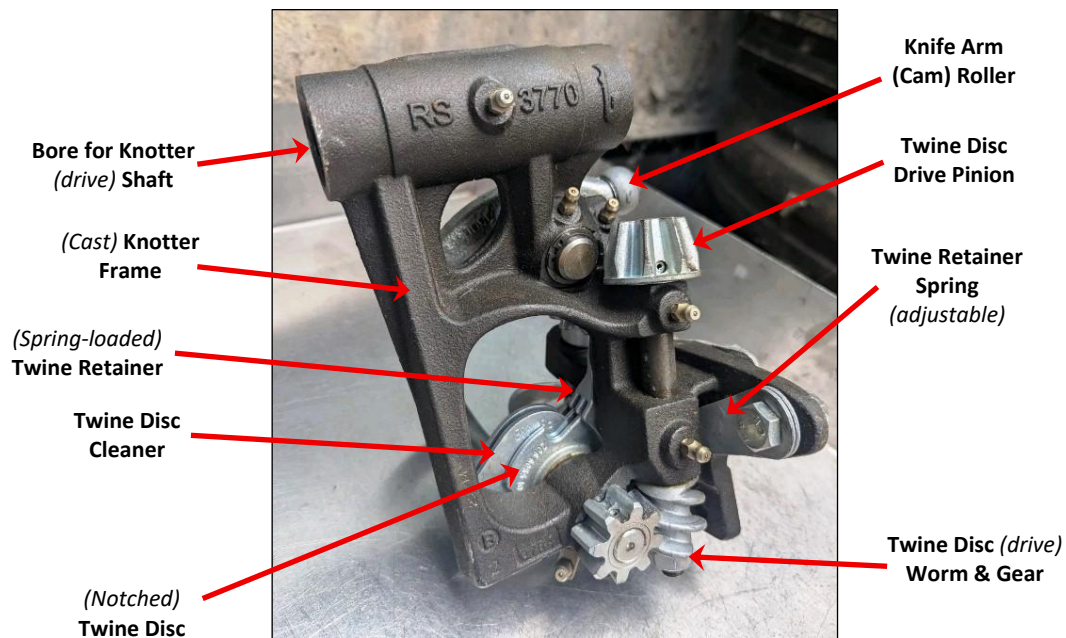
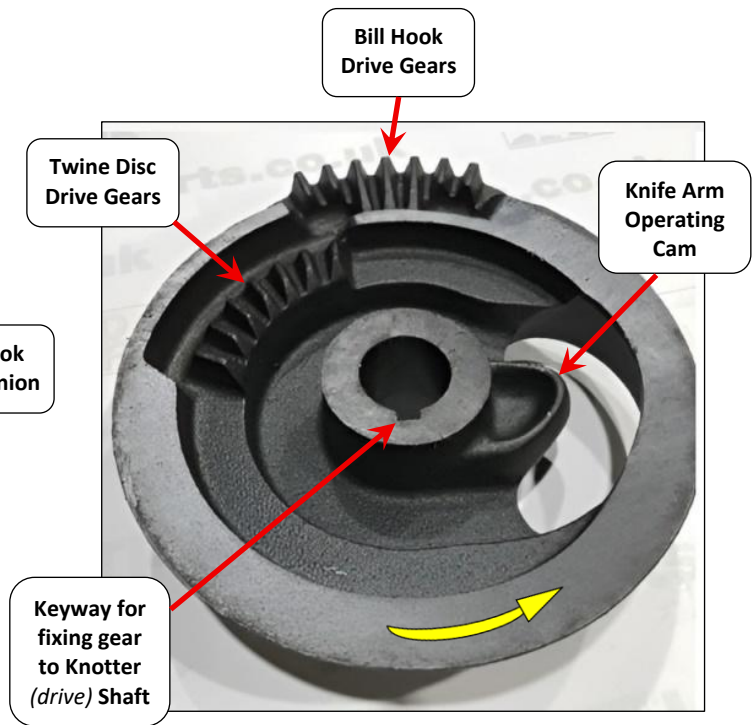

Fig.3.4 Deering-type knotter – Key components (*top view*)
Fig.3.7 Cam gear for Deering-type baler knotter
Figs 3.4, 3.5 & 3.6 show the key components of a contemporary Deering-type knotter unit, as fitted to conventional (*small, square*) pick-up balers. However, this general design has changed very little since the early 20th Century. The components are attached to the (*cast*) Knotter Frame and are driven by the Knotter Cam Gear (*Fig.3.7*). Both are mounted on the Knotter Shaft.
- A (*Knotter*) Cam Gear is also fitted on the Knotter Shaft, immediately beside each Knotter Unit. The Cam gear is fixed to (*and is driven by*) the Knotter (*drive*) Shaft via a central keyway (Fig.3.7)
- The Knife Arm (*cam*) Roller also follows a cam profile on the Cam Gear (Fig.3.7) and this operates the Knife / Stripper Arm.